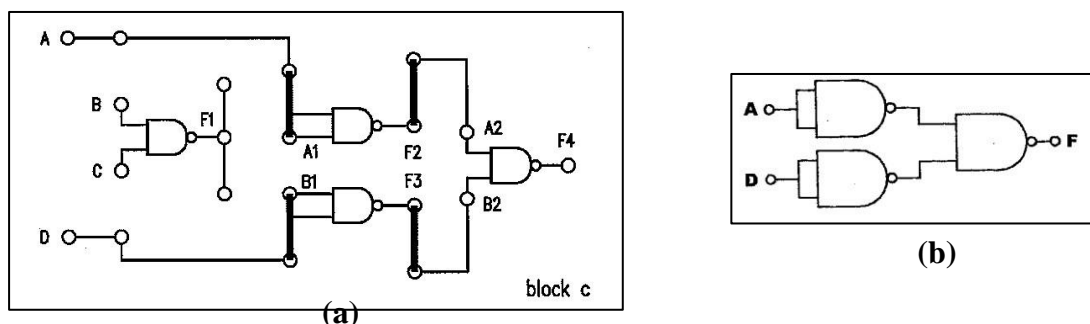

Figure 2.4
- 2.4 Construct the circuit as shown in **Figure 2.4(a)** so that it simulates the NAND-gate circuit as shown in **Figure 2.4(b)**. Connect **A** to **SW0**, **D** to **SW1** and **F4** to **L1**. Record your observation in a truth table. Label the table as **Table 2.4**. Discuss your result.